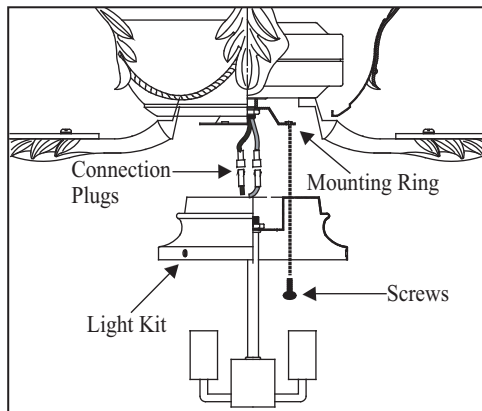

Figure 18
2. Connect the white wire connectors from the light kit and fan, follow the same procedure with the black wire connectors. (Figure 18)